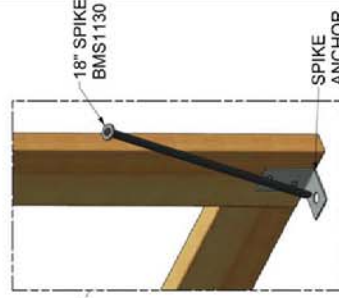

FIGURE 6
4. USE PURLIN FASTENERS TO SECURE THE PURLIN TO THE END FRAME SECTIONS ONLY. START WITH THE PLAIN END OF THE PURLIN FLUSH WITH THE OUTSIDE OF THE FRAME SECTION. SECURE THE PURLIN FASTENER WITH TWO #12-14 x 1" SELF-DRILLING SCREWS. SECURE THE PURLIN TO THE PURLIN FASTENER USING ONE #12-14 x 1" SELF-DRILLING SCREW AS SHOWN. [FIGURE 5] ATTACH PURLINS TOGETHER WITH ONE #12-14 x 1" SELF-DRILLING SCREW. [FIGURE 6] TAP THE ROUND CAPS INTO THE END OF THE PURLINS WHEN DONE.
6. SECURE SPIKE ANCHOR BRACKET TO DOOR JAMBS USING WOODTITE SCREWS. DRIVE SPIKE THROUGH BRACKET TO SECURE VERTICAL FRAMING AND DOOR JAMB. [FIGURE 6]